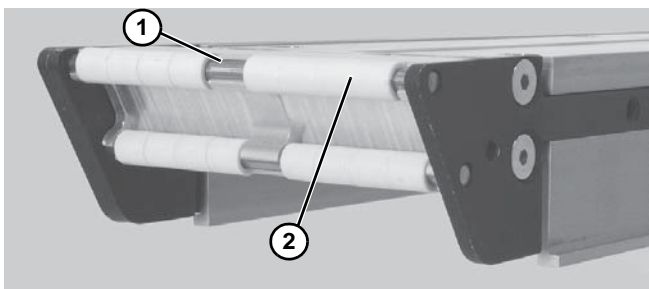

Figure 44
4. Slide bearing rods (**Figure 44, item 1**) out side of conveyor and replace bearings (**Figure 44, item 2**) as necessary.